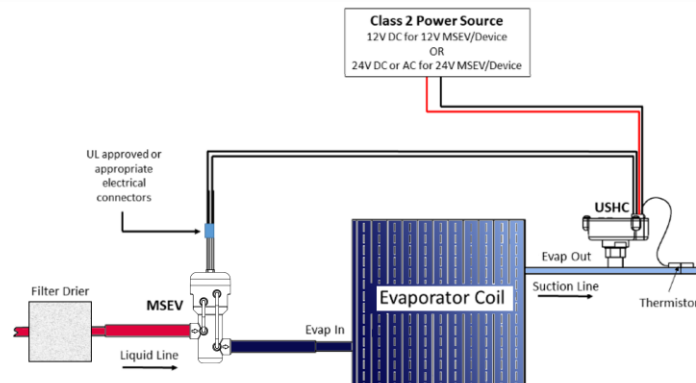

Figure 2-1 MSEV series valve and USHC installation schematic
This section describes the mechanical installation of a MSEV series valve and USHX. **Figure 2-1** below shows an example of a typical system where the MSEV series valve and USHX devices would be integrated into. Like conventional thermostatic expansion valves (TXVs) or electronic expansion valves (EEVs), the MSEV series valve is installed at the inlet of the evaporator. The USHC, which drives and controls the MSEV series valve, is installed at the outlet of the evaporator, in place of the TXV bulb or EEV controller sensing device. The MSEV series and USHC are connected together by a wiring harness. A thermistor at the outlet of the evaporator measures the temperature, and the USHC is powered by the Class 2 power source.
7. It is mandatory to install a brand-new filter drier at the inlet of the MSEV series valve as indicated in Figure 2-1. It can be installed at about 6" away from the valve. The MSEV series valve must be protected against contaminants to ensure its optimal operation.